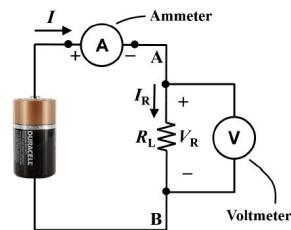

Figure 41: Measurement of voltage and current using voltmeter and ammeter, respectively.
The voltage across a circuit element can be measured by connecting a voltmeter (V) across it (parallel) as shown in Figure 41.
Current is measured using ammeter. To measure current through a circuit element, the ammeter is connected in series with that element as shown in Figure 41. An ammeter also has two terminals. One of them is labeled as either the common or negative terminal (usually colored black), and the other terminal is the positive terminal (usually colored red). The measurement shown by the ammeter is for the current in the direction from its positive terminal (red) to its negative (black). If the current actually flows in this direction, then the reading will show positive value. Otherwise, it will show negative value.